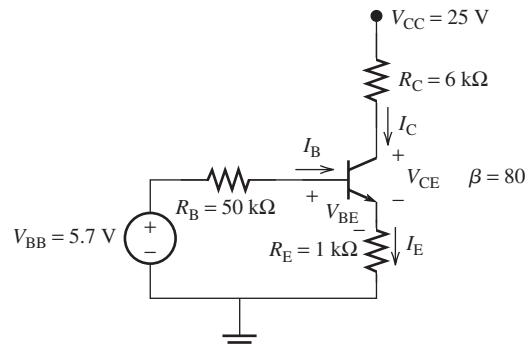

FIGURE P8.39 Circuit for Problem 8.39.
- 8.39** (A) For the circuit shown in Figure P8.39, find V_{BE} , I_B , I_C , and V_{CE} .